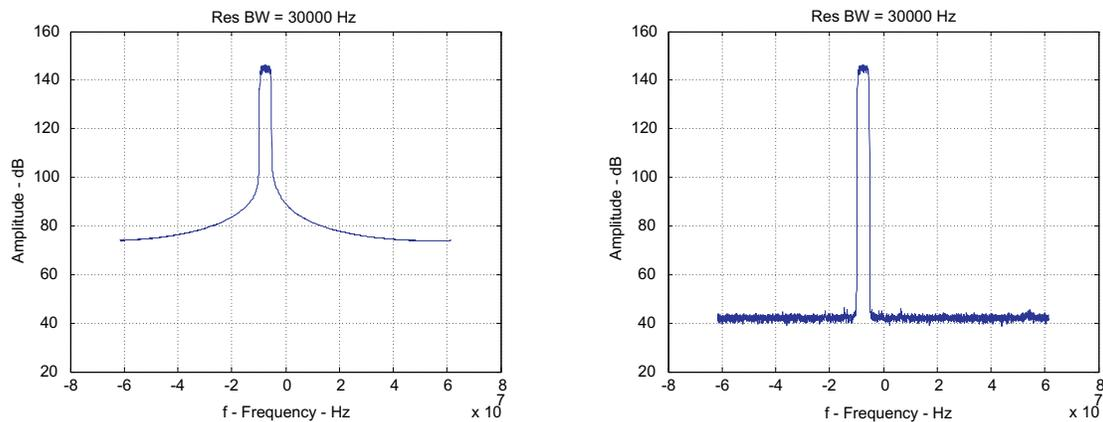

Figure 23. Comparison of Using the Exact Frequency (left) vs Rounded Frequency (right)
- **ExactFreq**—uses the exact frequency specified in **IF (MHz)** and **Carrier Off Freq (MHz)**. When unselected, the frequency is rounded to the closest frequency that has a prime integer number of periods in the pattern time. When using the exact frequency, if there is not an integer number of periods in the pattern time, there may be a glitch in the pattern as it wraps from back to front. This is seen in the FFT display as *skirts* on the carrier (Figure 23). Typically this control is unselected. The rounded frequency for each carrier is stored in a log file in the subfolder /testfiles.
- **Off Freq (MHz)**—offset frequency of the carrier in MHz from the center frequency. Note, this offset may be slightly shifted if the ExactFreq check box is unselected. When using the exact frequency, if there is not an integer number of periods in the pattern time, there may be a glitch in the pattern as it wraps from back to front. This is seen in the FFT display as *skirts* on the carrier (Figure 23). Typically the rounded frequency is used. The rounded frequency for each carrier is stored in a log file in the subfolder /testfiles.